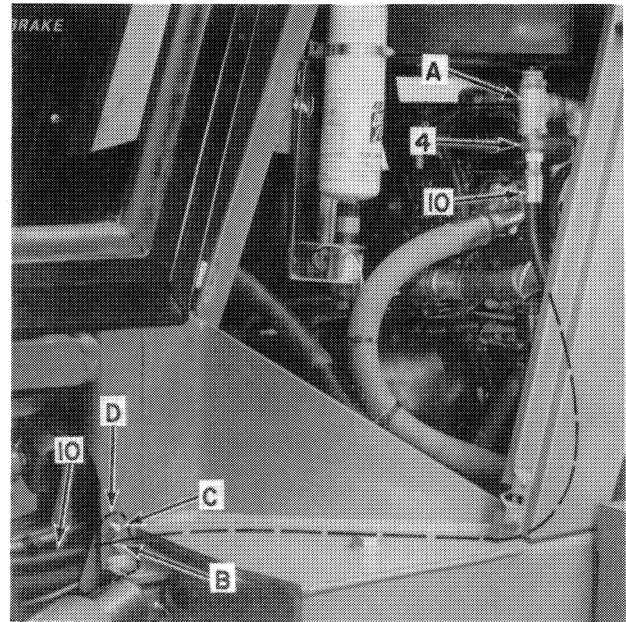

Figure 7
3. Install fitting, 4, Figure 7, into the bottom of the hydraulic reservoir, attach hose, 10, to this fitting. Tee, A, will not be present and is not required. Use pipe thread sealant on all pipe thread fittings.
5. Remove the lower pin, B, Figure 7, and 8, of the engine end hose clamp. Swing clamp, D, down for clearance. On the cab end hose